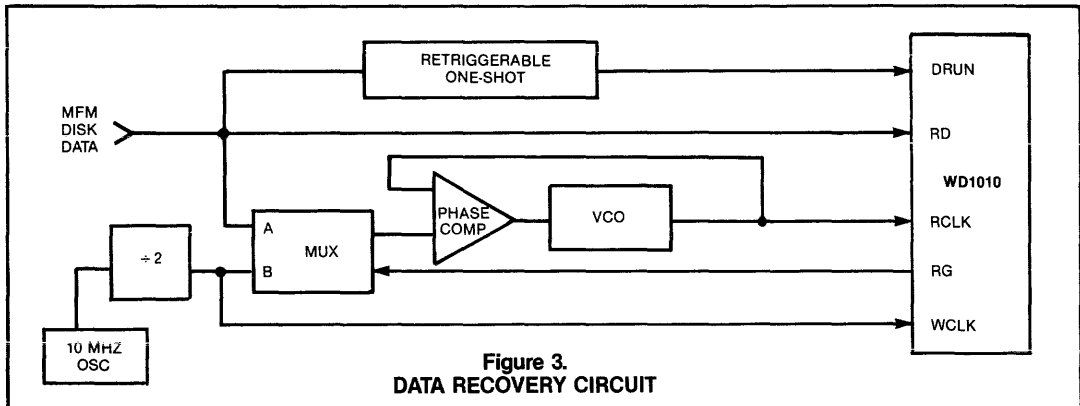

Figure 3.
The data recovery circuits consist of a phase-lock loop data separator and associated components. The WD1010 interacts with the data separator through the DATA RUN (DRUN) and Read Gate (RG) signals. The block diagram of the data separator circuit is shown in Figure 3. Read data from the drive is presented to the RD input of the WD1010, the reference multiplexor, and a retriggerable one shot. The read gate (Pin 38) output will be low when the WD1010 is not inspecting data. The PLL at this time should remain locked to the reference clock.